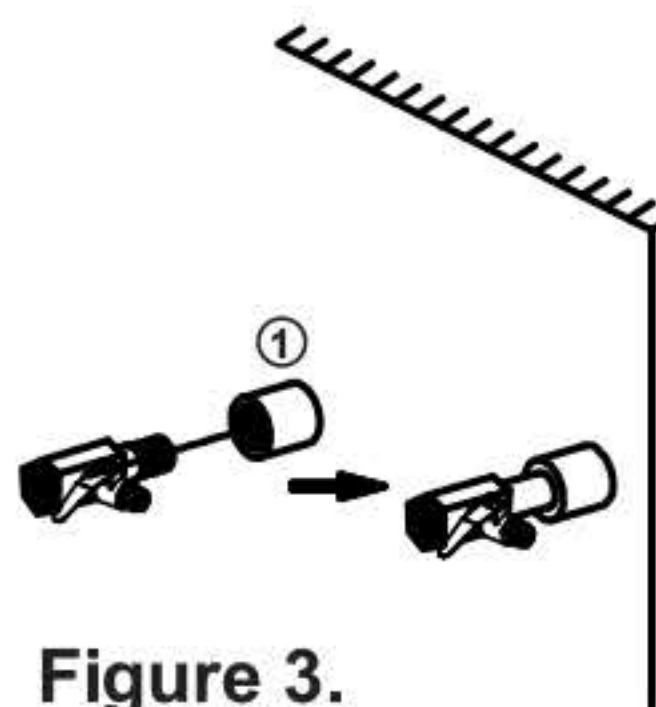

Figure 3.
2. Connect the 3-way connector to the raw water supply (marked as no. 1) as shown in the figure 3. The 3-way connector is fitted in line with the raw water supply.